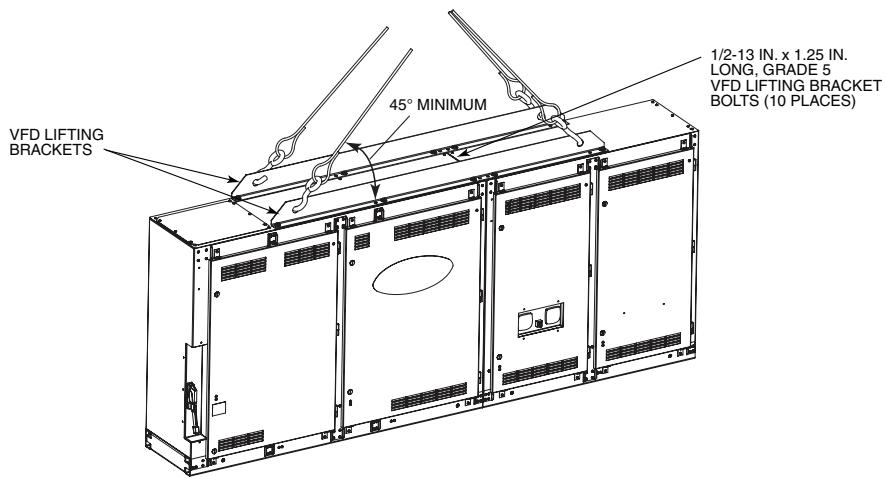
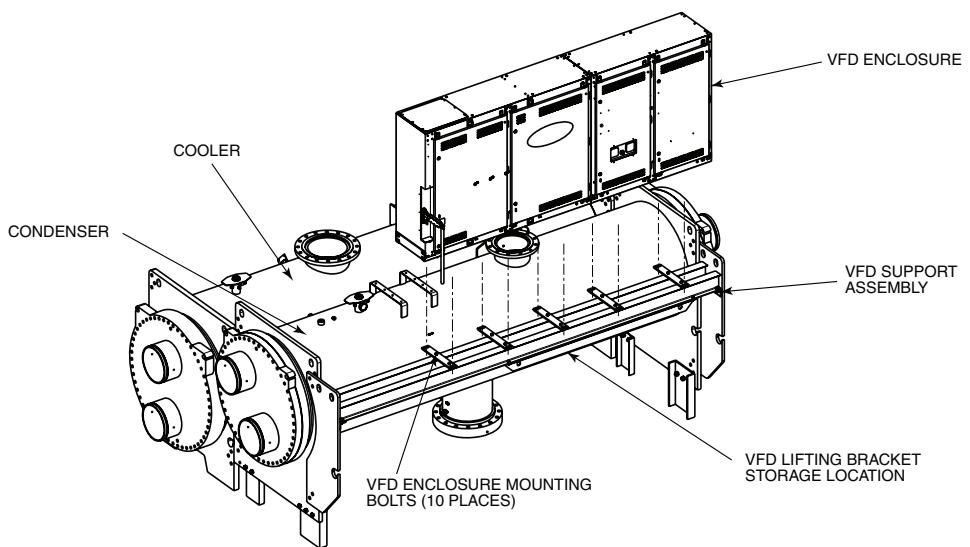

Fig. 25 – 900A or 1200A VFD Enclosure Lifting Points
Fig. 27 – 900A or 1200A VFD Enclosure Installation
2. Using an overhead or portable hoist (minimum 2-ton rated capacity), attach a free-fall chain to the sling secured drive. Take up any slack in the chain. See Fig. 25.
NOTE: If overhead space is limited following reinstallation of the VFD enclosure, the VFD enclosure lifting brackets (Fig. 25) may be removed from the top of the VFD and fastened to the bottom of the VFD support shelf (Fig. 27).